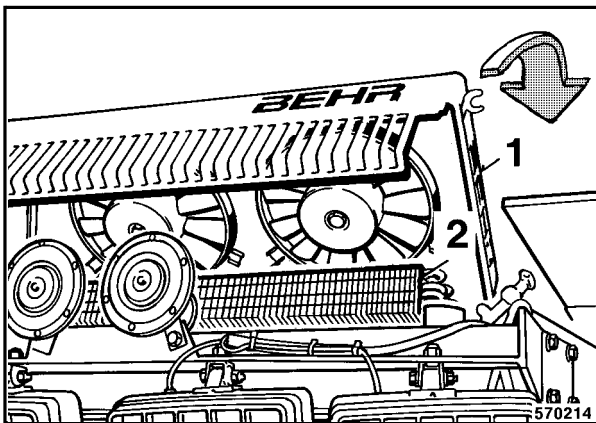

Fig. 5
- Unhook the rubber straps and open the flap 1 (Fig. 5).
- Blow the condenser fins (2) out with pressure air or clean it with a cold water jet.